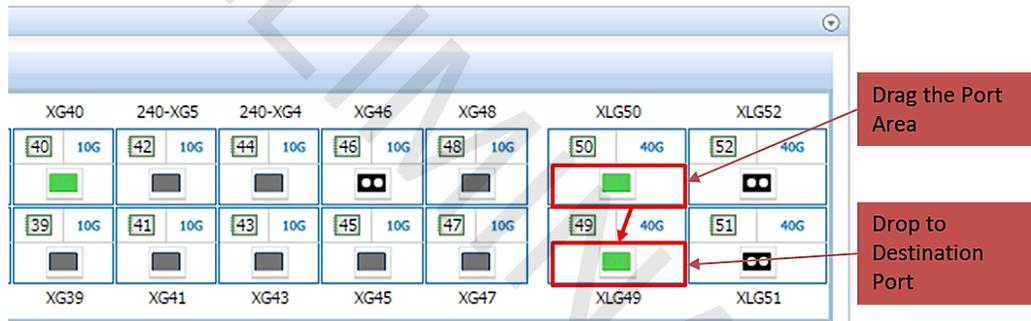

Figure 21: Dragging a dropping a port.
2. Drag and drop port **XLG50** to the destination port **XLG49**, as shown in Figure 21.